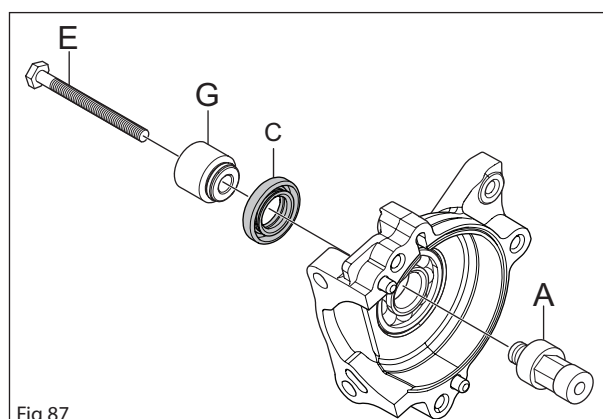

Fig 87
Use the 576 66 64-01 (A), 576 95 56-02 (G) and 725 23 80-51 (E) tools to assemble the sealing ring (C). Fit the service tool as outlined in Figure 87. Tighten with a suitable socket spanner as far as possible.